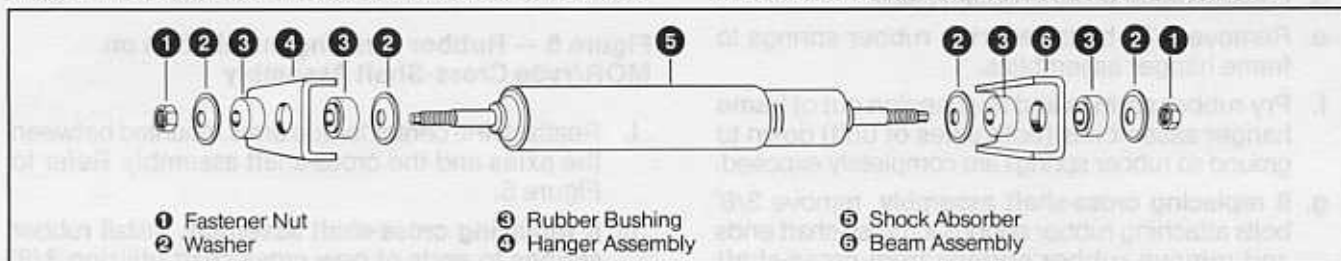

Figure 3 — Shock Absorber and Shock Fasteners
There are four (4) shock absorbers utilized on the MOR/ryde tandem axle suspension system. These shock absorbers are made by Monroe with special valving and stroke length specifically designed for the MOR/ryde suspension and are **not** available through any Monroe aftermarket dealers. Consult MOR/ryde, Inc. direct for replacements. Refer to Figure 3.